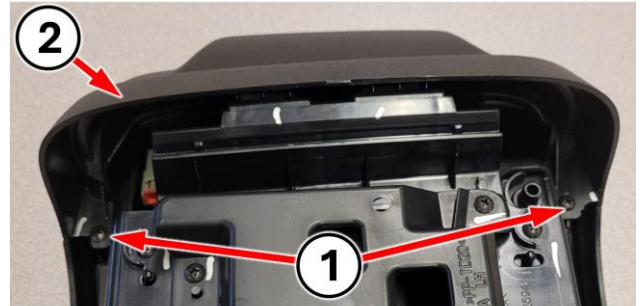

Figure 18 – Tail Lamp Close Out Panel
20. **NEW lamp:** Position the close out panel (2) to the lamp then install and tighten securely the two screws (1) attaching the close out panel (2) to the lamp housing (Figure 18).